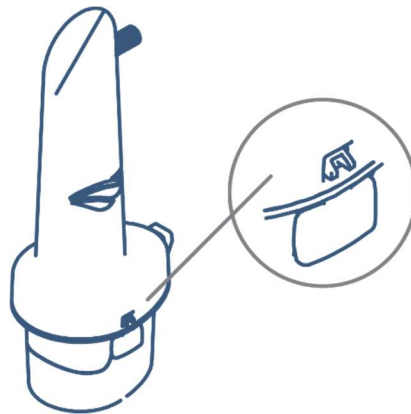

Figure 11 – Mist Stack Latches
5. Ensure the latches engage on both sides (Figure 11).